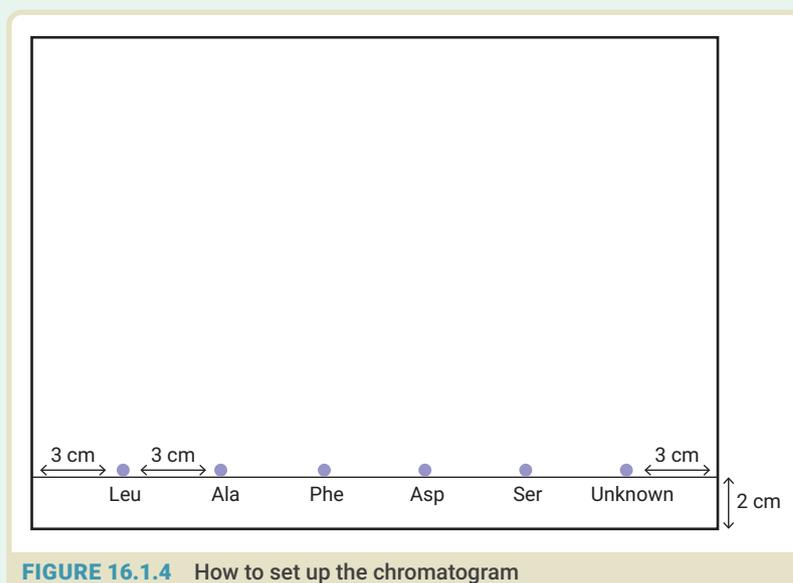

FIGURE 16.1.4 How to set up the chromatogram
- 3 Label each circle in pencil with the amino acid and unknown (**Figure 16.1.4**).